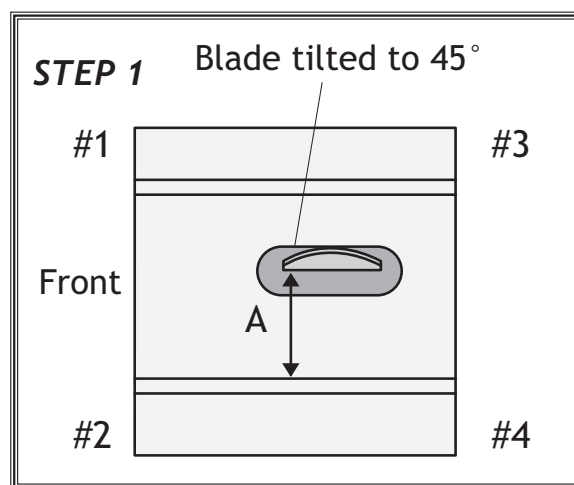

Figure 68. Measuring blade to miter slot at point A.
11. First determine which measurement is longer. If measurement "A" (**Figure 68**) is shorter, then corners #1 and #2 need to be shimmed.